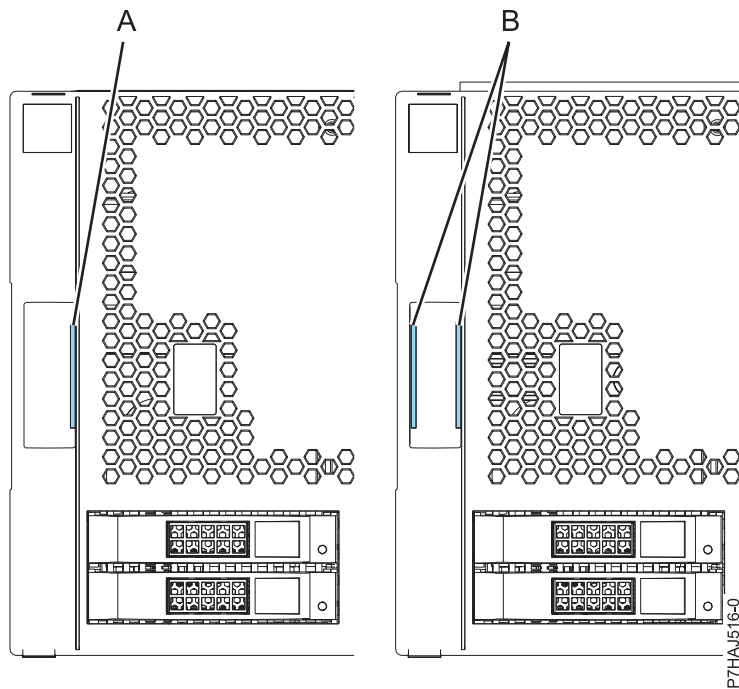

Figure 15. Identifying the older and newer covers
Note: The older covers that were shipped before 1 March 2011 can be identified by a single blue stripe (A) on the cover assembly latches. Newer covers that were shipped after 1 March 2011 have two blue stripes (B) on the cover assembly latches. See Figure 15 on page 35.